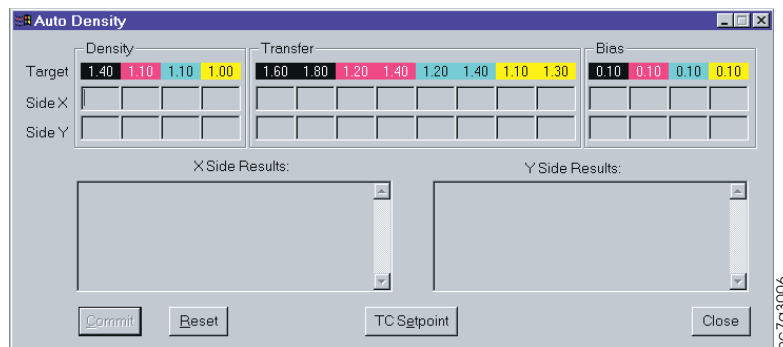

Figure 201. Auto Density Window
1. Open the **Auto Density** window, as shown in Figure 201.